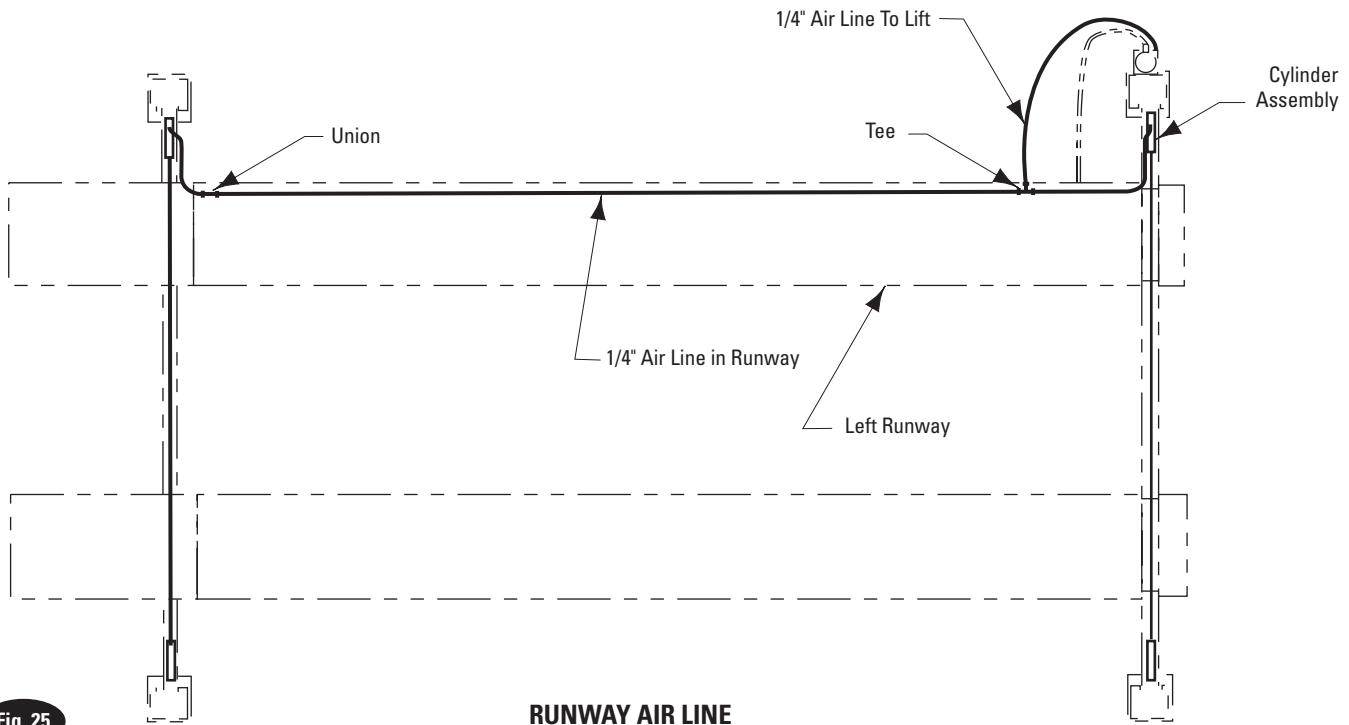

Fig. 25
- F. Attach enclosed NP280 decal ("PUSH TO RELEASE LATCHES") below button on air valve bracket, Fig. 17. Run 1/4" air line from air valve to the slot in the fixed runway. Cut airline and attach a Tee, Fig. 25, 22.
- G. Run 1/4" air line from the Tee in the front yoke through air output on the air valve, Fig. 22, and Fig. 25.